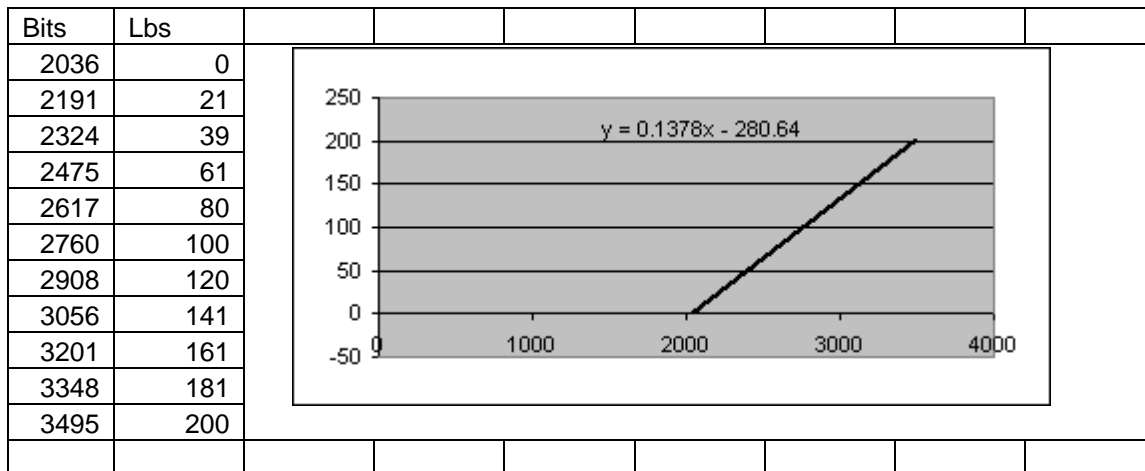

Figure 4: Calculating a Slope
- Proceed by streaming the node and observing the bit output using various weights. In our example shown in Figure 4, we are demonstrating 11 loads, i.e., 0 (no load), 21 lbs, 39 lbs, and so forth.